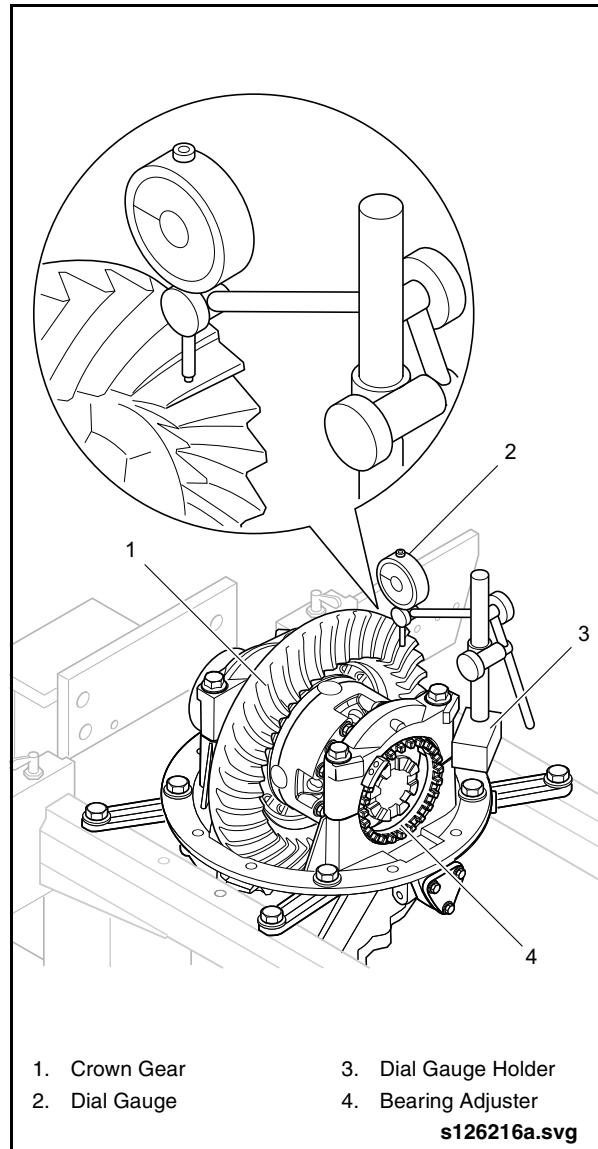

Fig. 2-69: Backlash Adjustment
2. Place the Dial Gauge Holder with Dial Gauge (Items 45 & 44 from Special Tools List) on the drive axle housing. See "Fig. 2-69: Backlash Adjustment" on page 60.